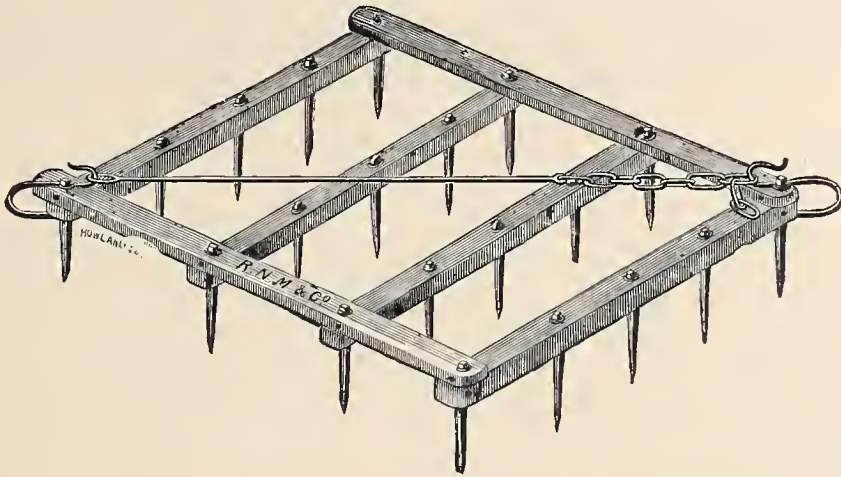

Fig. 329.—Expanding and Reversible Harrow.
*The Expanding and Reversible Harrow*, represented by *Fig. 329*, is so constructed as to admit of being widened or narrowed to do coarse or fine work. The